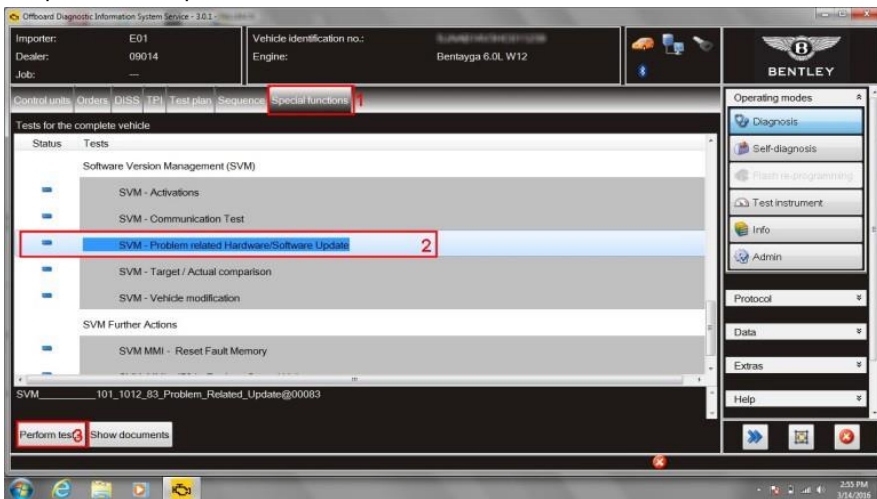

Figure 2
9. Select *Special functions* (1), Select *SVM– Problem related Hardware/Software Update* (2), Select *Perform test* (3) (see Figure 2)